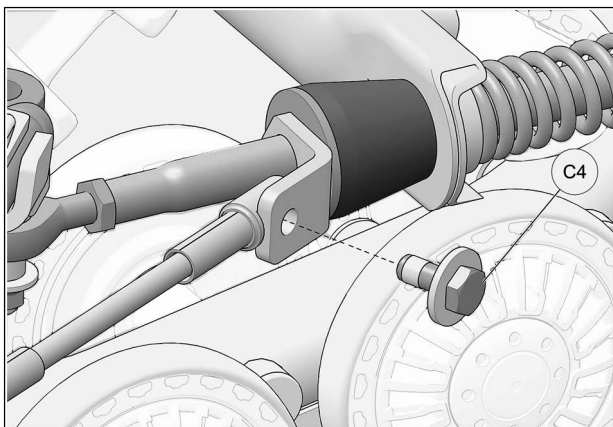

Fig. 31
18. Reverse steering wheel a little to be able to bolt support plate and cable together. Tighten provided bolt (C4) to 35 Nm [24 lb•ft]. See Fig. 31. Repeat steps on right side.